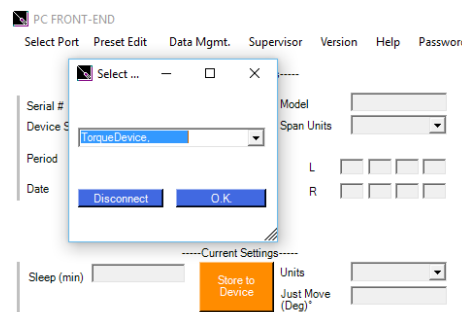

Figure 2: Selecting Suitable COM port
1. **Select Port:** Allows the user to connect with the Torque Device (See Figure 2)